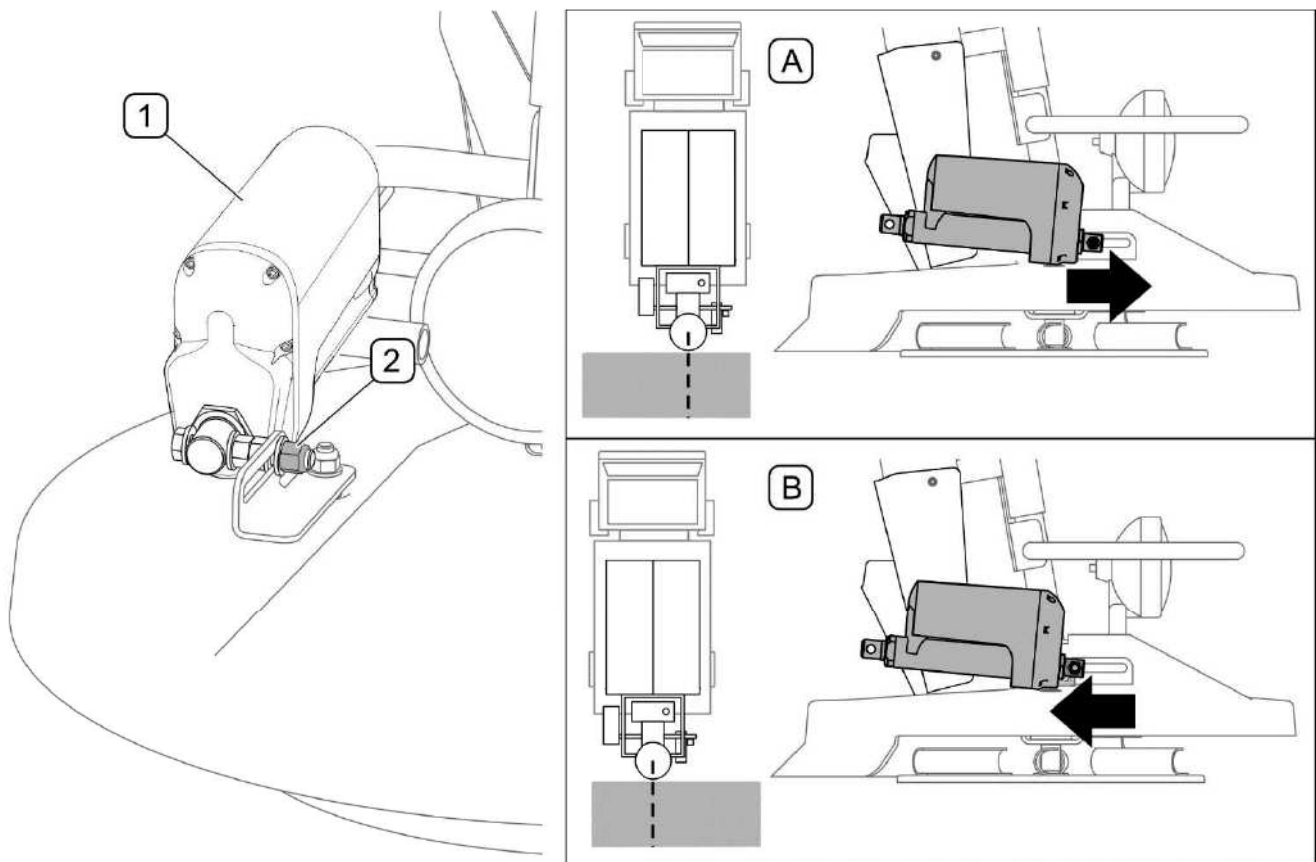

FIG. 5.9 Adjustment of spreading mechanism
(1) - spreading direction adjusting cylinder; (2) - nut; (A) - spreading zone excessively shifted to the left, (B) - spreading zone excessively shifted to the right,
In order to adjust the spreading mechanism, set symmetric 4 meter-wide spreading zone on the control panel. Activate spreading and drive a short distance at a constant speed. Stop the vehicle and check effect of spreading. If spreading to the right side and to the left side is not the same, adjust spreading direction adjusting cylinder (1) (FIG. 5.9) as follows:
- Loosen nut (2).
- Move cylinder (1) forwards if spreading zone is excessively shifted to the left (A).
- Move cylinder (1) backwards if spreading zone is excessively shifted to the right (B).
- Tighten nut (2), conduct test spreading, if necessary, repeat the adjustment.